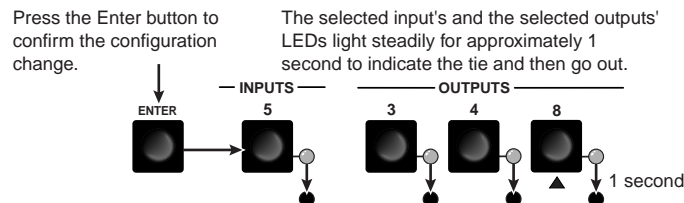

Figure 3-7 — Press the Enter button
4. Press and release the Enter button (figure 3-7).